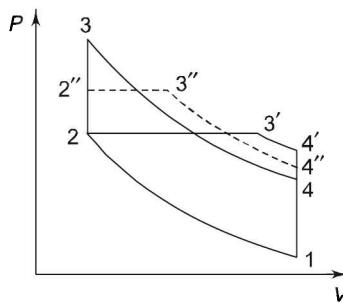

FIGURE 6.8 Equal compression and heat input.
1. Cycles for equal compression and heat input are shown in Figure 6.8. The Otto cycle is 1-2-3-4, the Diesel cycle is 1-2-3'-4' and the dual cycle is 1-2"-3"-4". The area enclosed shows net work output. Therefore $\eta_{\text{Otto}} > \eta_{\text{Dual}} > \eta_{\text{Diesel}}$.